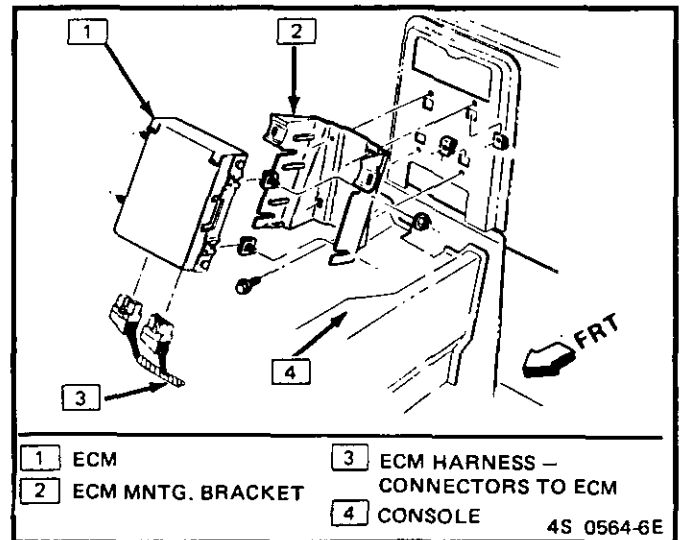

Figure C1-8 - ECM Mounting - P- Series - with A/C
2. ECM mounting hardware. (Fig. C1-8)